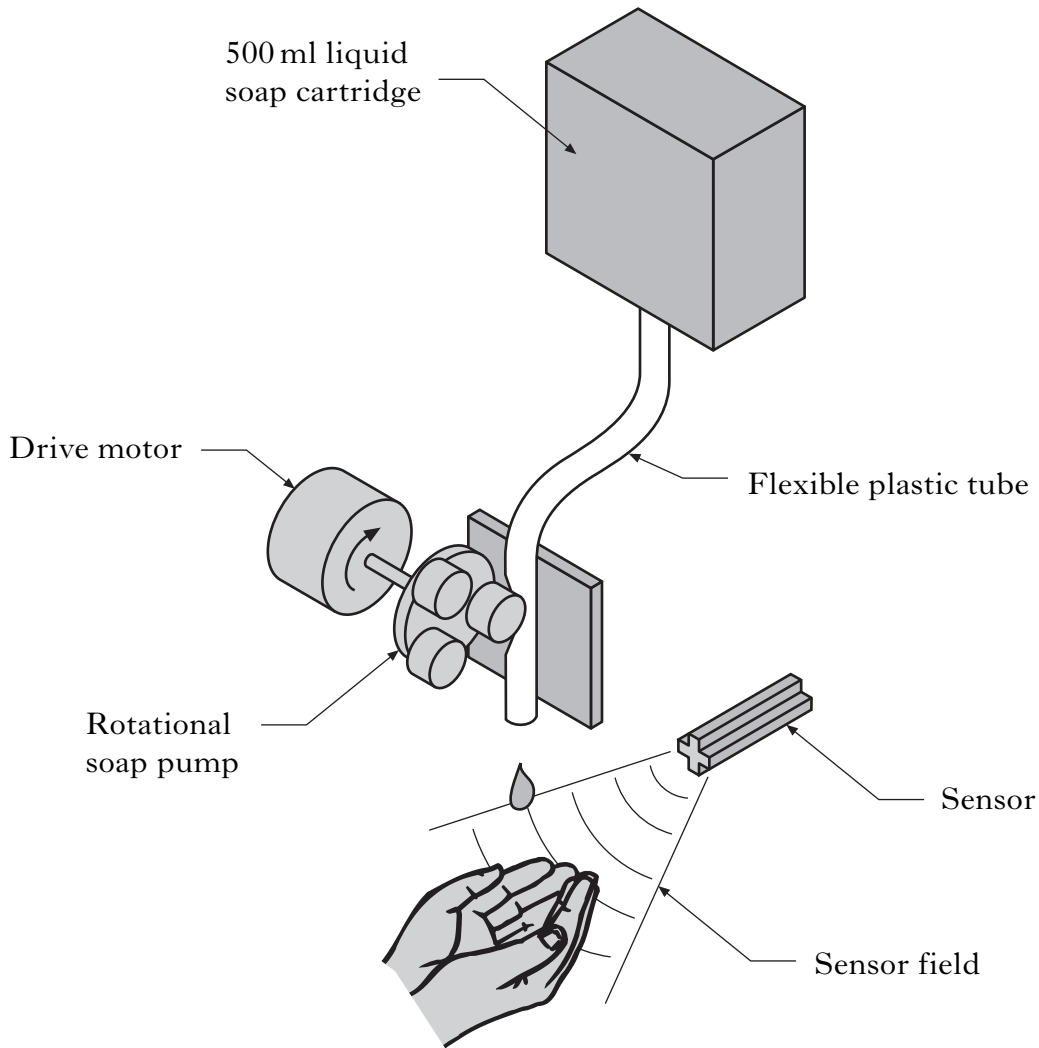

Figure Q9
9. Figure Q9 shows a schematic diagram of an automated liquid soap dispenser. When a hand is sensed in the sensor field, 5 ml of liquid soap is dispensed.